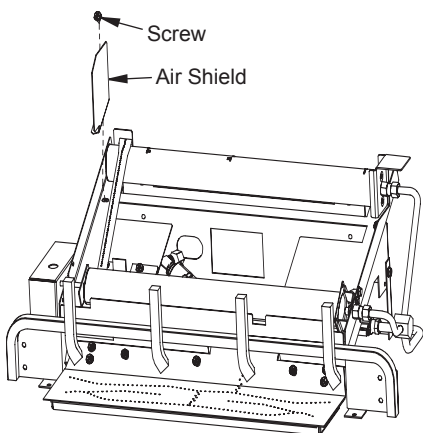

Figure 47 - Removing Air Shield
1. Before placing any logs on the chassis you will need to remove the Air Shield located on the left side near the rear burner as shown in Figure 47. The Air Shield is held in place with one screw, remove the Air Shield and place the screw back into the hole in the chassis. Place the Air Shield with you owner's manual and keep